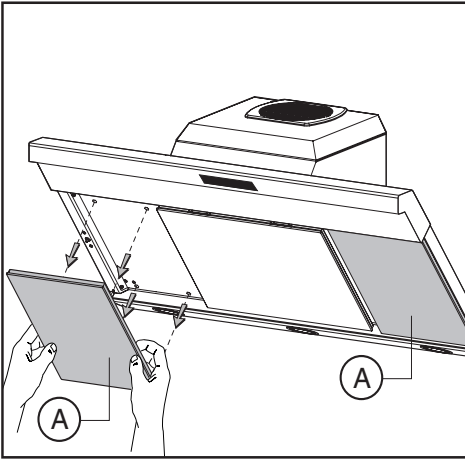

Fig.12
If your appliance model is fitted with side panels (A), for more thorough cleaning these can be removed by pulling them in the direction indicated in fig. 12.